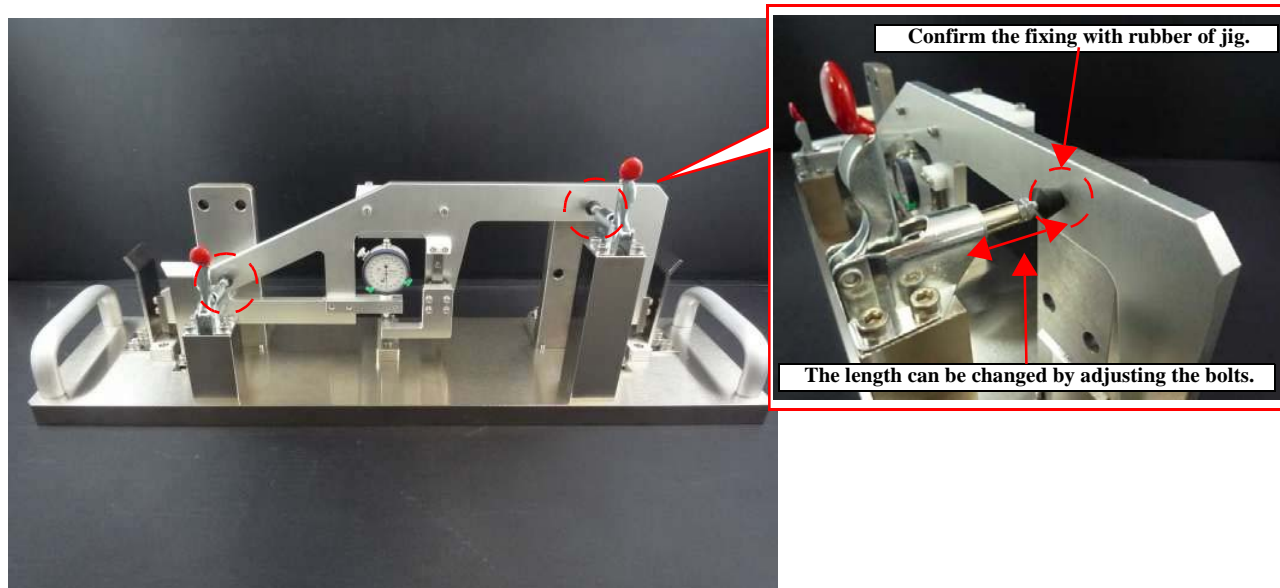

Figure 2-3. Setting the PF Roller Adjustment Jig to the PF Roller Adjustment Jig Stand
3. Set the PF Roller Adjustment Jig to the PF Roller Adjustment Jig Stand show in Figure 2-3.